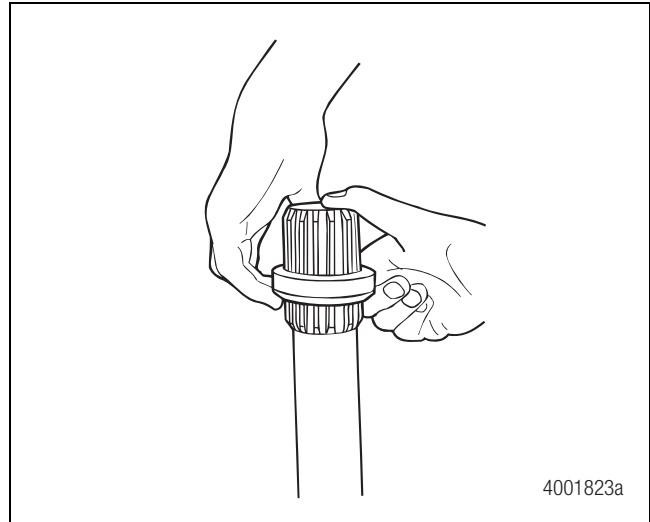

Figure 5.6
4. Remove the seal. Figure 5.6.